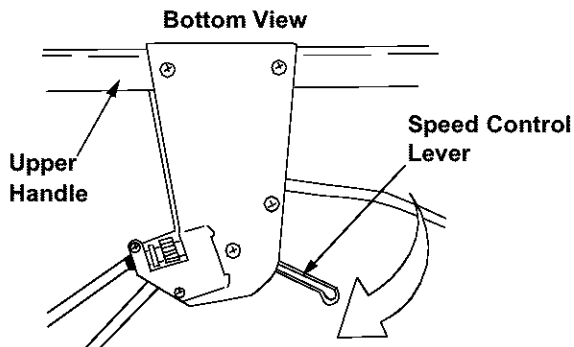

Figure 10
- Start Engine and place speed control in the third speed position. See Figure 10.